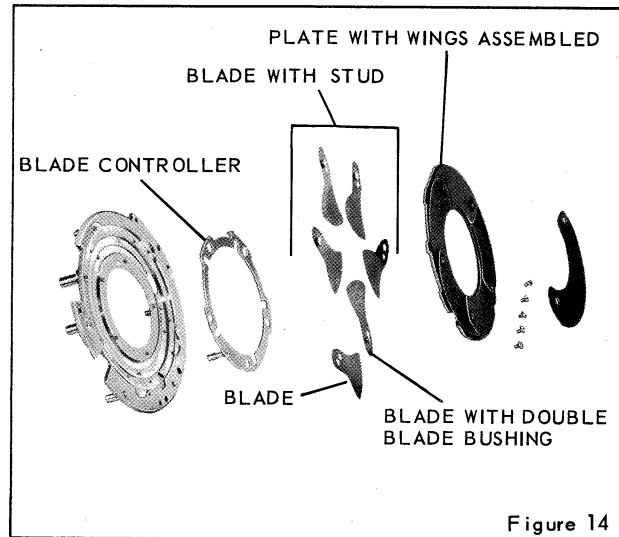

Figure 14
14. BLADE CONTROLLER, figure 14.
3. **BLADE WITH DOUBLE BLADE BUSHING** and stud, figure 14, with the hole in the blade over the stud near the **BLADE CONTROLLER LUG**, figure 17, on the mechanism plate.
4. Proceeding counterclockwise, replace four **BLADES WITH STUD**, figure 14, allowing the wide end of each blade to overlap the narrow end of the preceding blade.